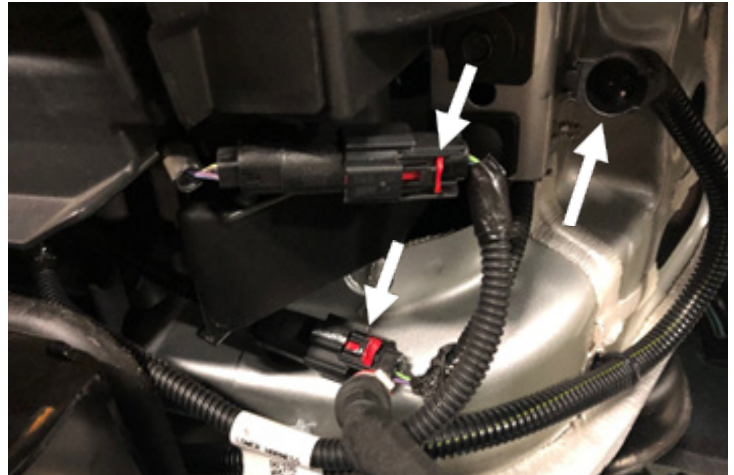

Figure 12
11. As you remove the bumper, unplug the sensor, heater plug, and lower louver harnesses located on the driver side of the truck. Figure 12.